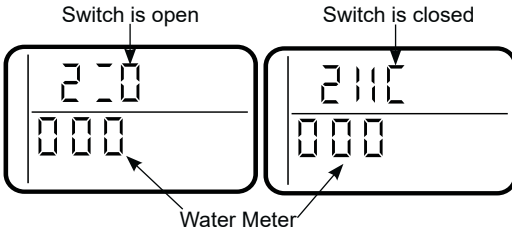

Figure 19
3. Symbols in the display indicate POSITION switch operation, (see Figure 19).